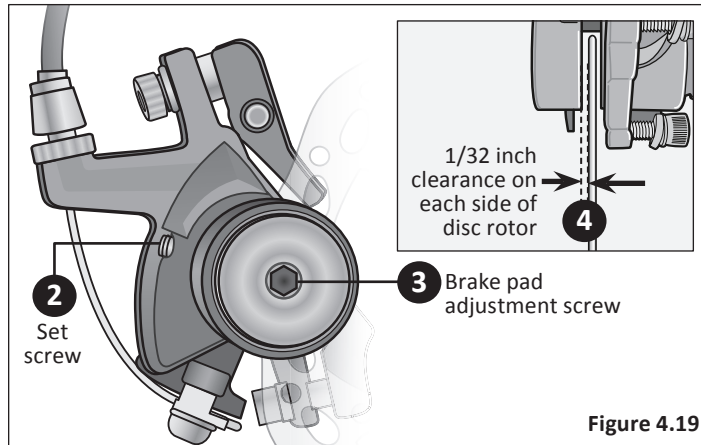

Figure 4.19
- 1 Insert a $1/32$ " spacer gage between the disc rotor and brake pad. **Figure 4.19**